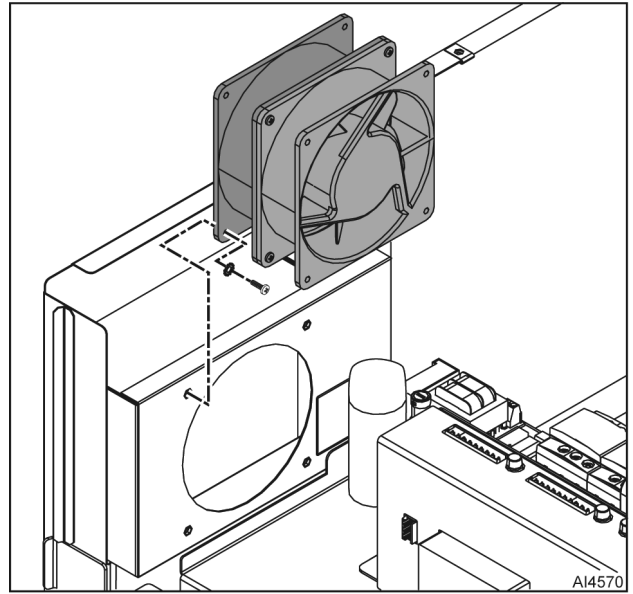

Fig. 17
5. Remove fasteners and axial fans (Fig. 17) from frame.